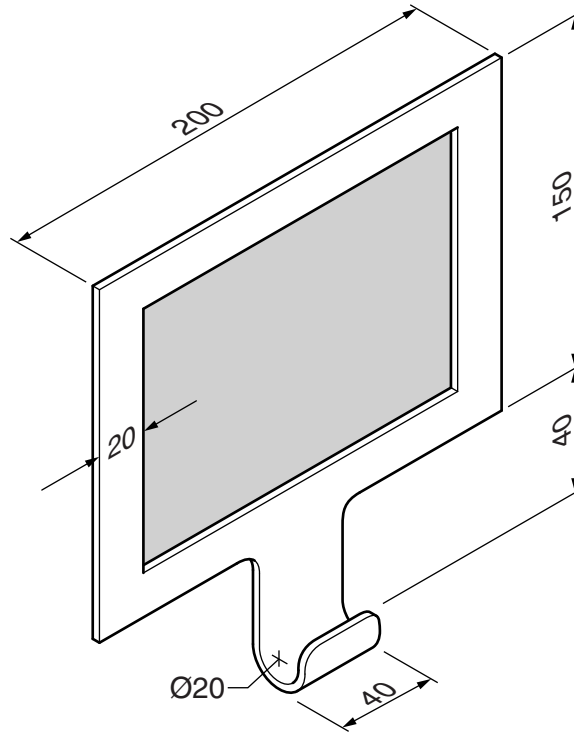

Fig. 14
- 13 Fig. 14 shows a combined photo frame and coat hook made from 4mm thick acrylic. It will be wall-mounted in a child's bedroom.